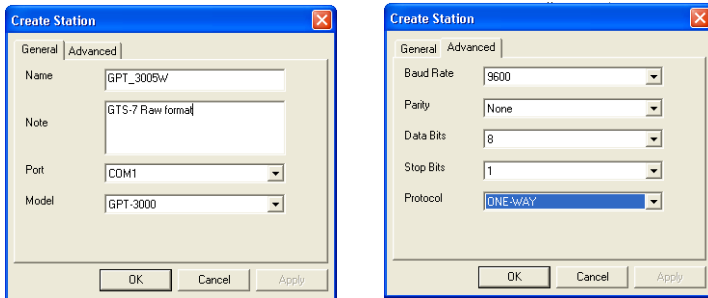

Figure 2-47. Total Station Properties
2. In the *General* tab of the **Create Station** dialog box (Figure 2-47 on page 2-29), enter the following information and click **OK**.
3. In the *Advanced* tab of the **Create Station** dialog box (Figure 2-47 on page 2-29), enter the baud rate, parity, data bits, stop bits, and protocol used for communication with the TS.